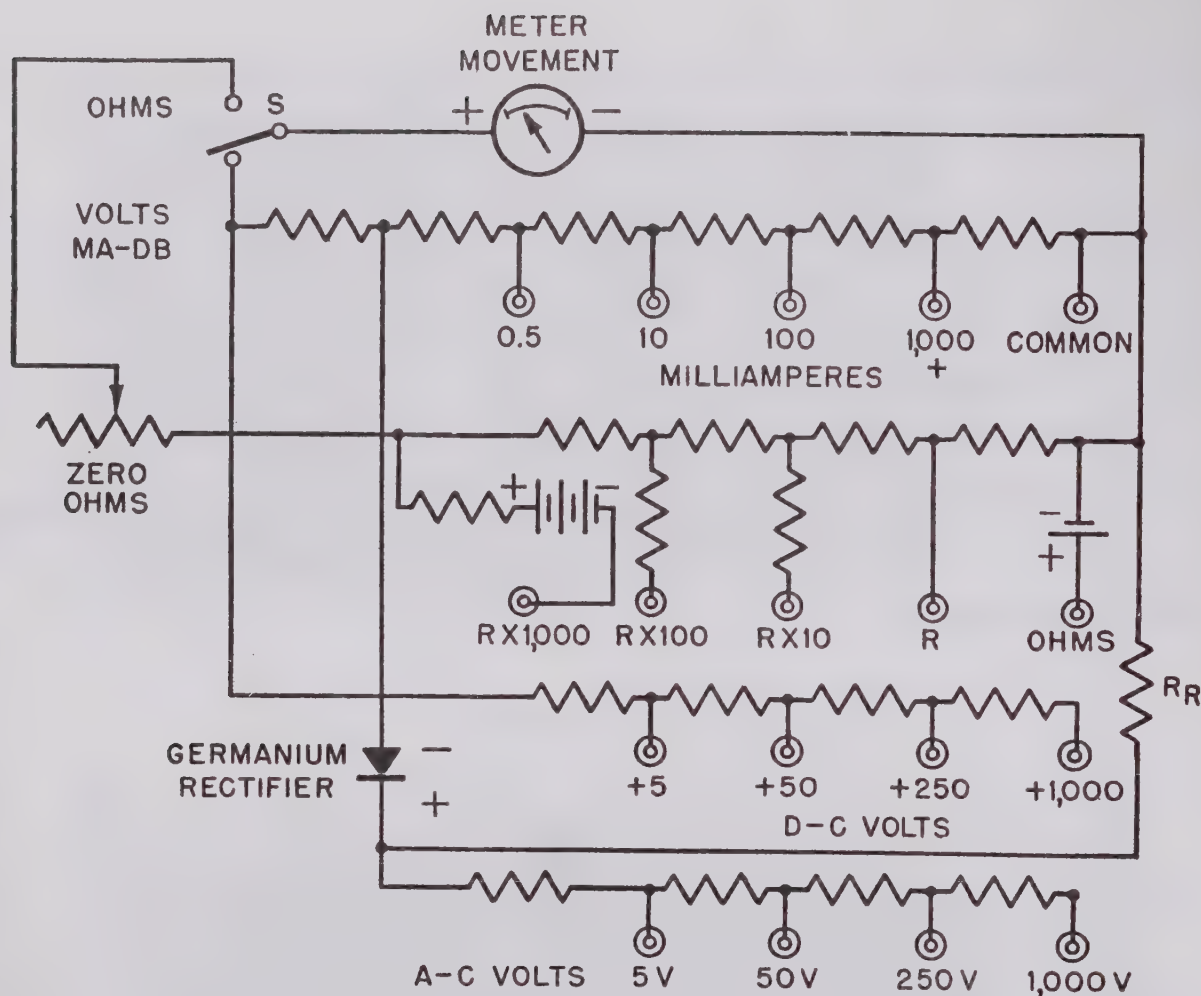

Figure 49. Basic circuit of a-c, d-c volt-ohm-milliammeter.
- (1) Figure 49 is the circuit of a volt-ohm-milliammeter capable of measuring a-c and d-c voltages, direct current, and resistance. The voltage-measuring circuit consists of two sets of series multiplier resistors, one for d-c voltages, and the other for a-c voltages. When measuring d-c volts, the circuit selector switch is turned to the VOLTS position. One test lead then